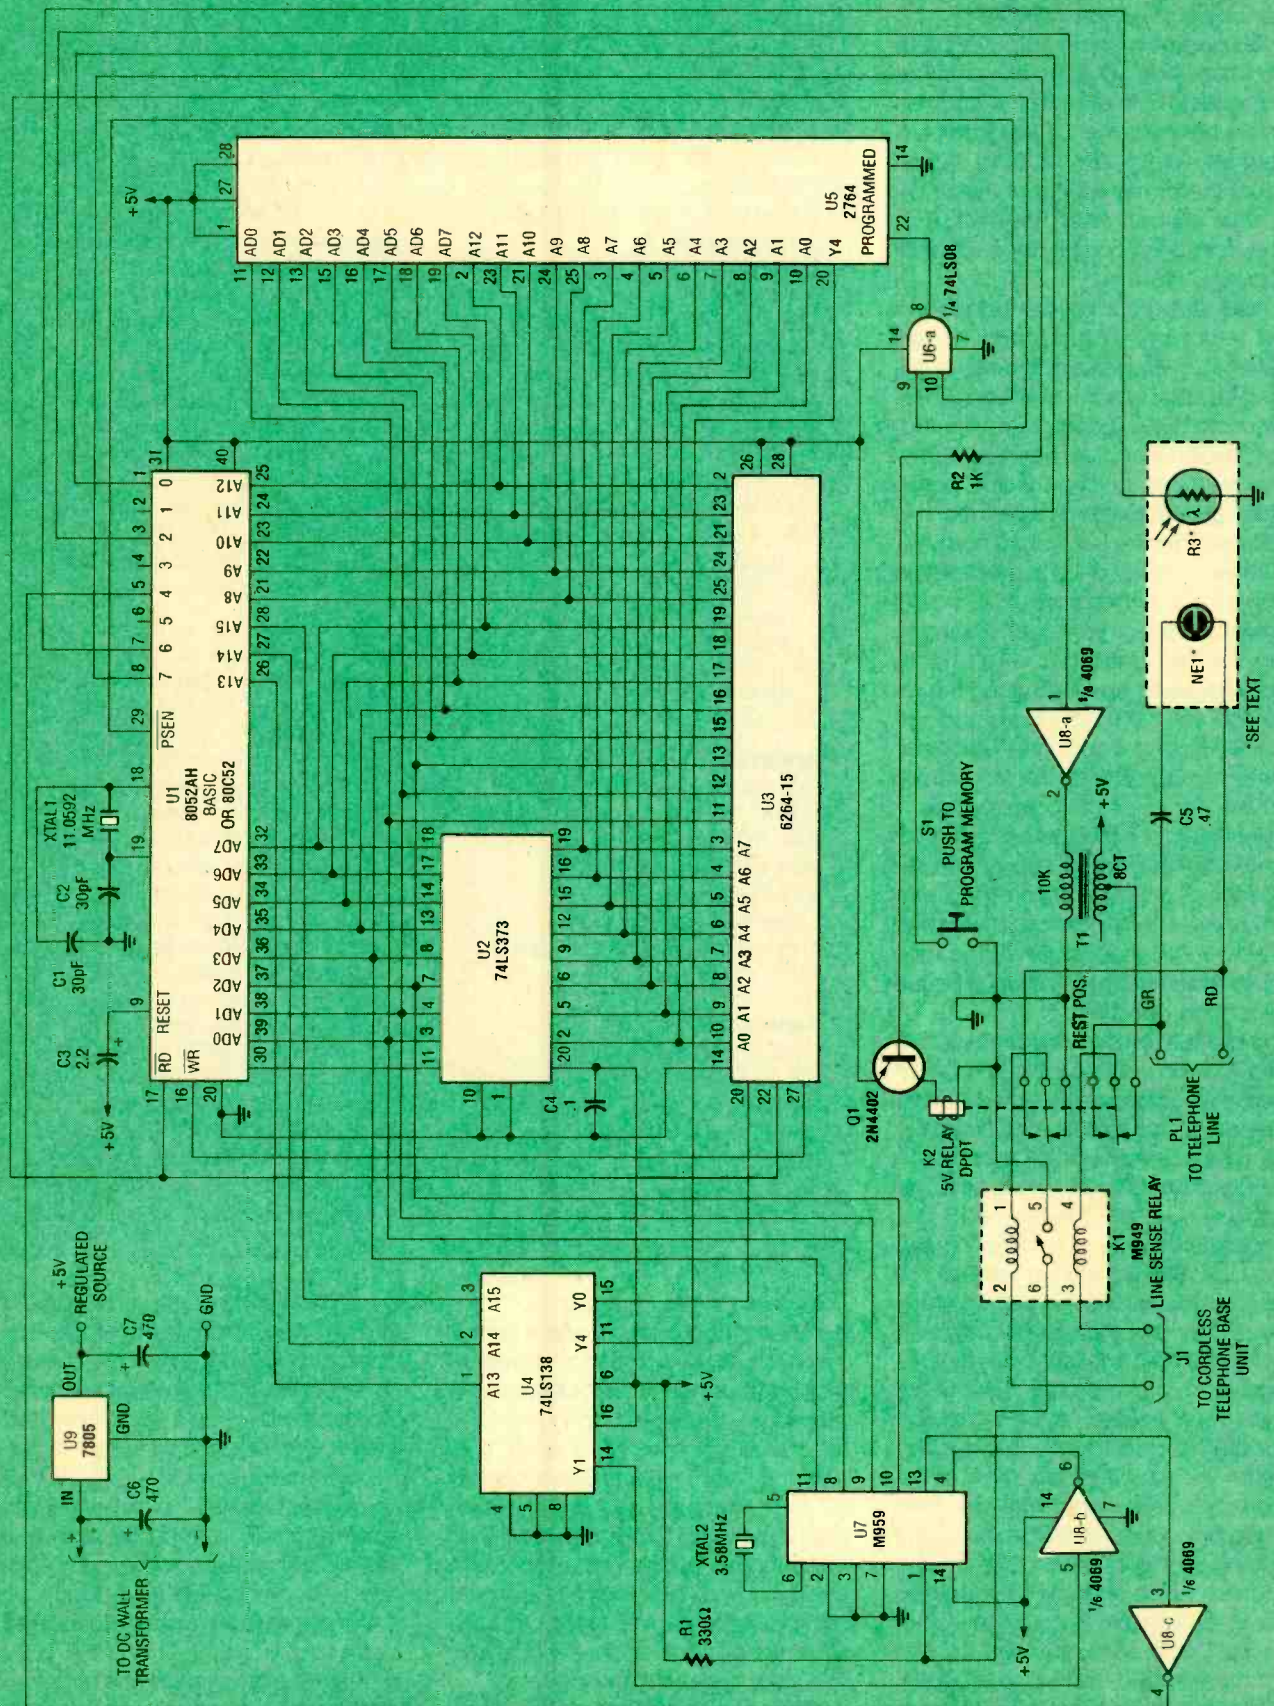

Fig. 1. At the heart of the Cordless Telephone Lock is a 8052AH BASIC microcontroller (U1).
**How it Works.** Figure 1 shows a complete schematic diagram of the
The wiring of the circuit is straight forward and, although it's quite involved and tedious, should pose no problem. To help prevent miswiring the circuit, Fig. 1 should be photocopied. Then as wires are soldered in place, the corresponding connection on the schematic should be penciled out.
(tape and silicon caulk work well), and install the coupler in the circuit as shown in Fig. 1.